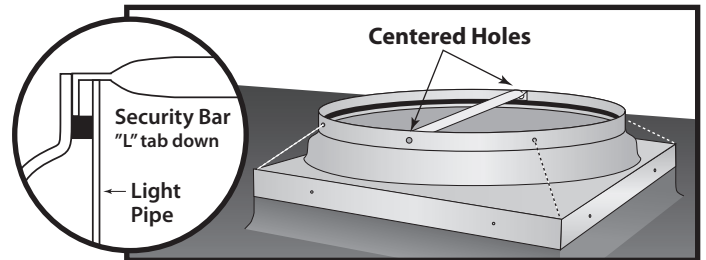

Figure 2
Step 1 Locate the two large pre-drilled holes on the flashing lip. These holes are counter-sunk and large enough to accommodate the 3/16" rivets. (see Figure 2)
NOTE: On the curb-mount flashing there are 4 holes diagonally from the 4 corners of the curb box (see dashed lines on Figure 2) - these are NOT the correct holes.
Step 2 With the "L" shaped tab facing down, line up the holes on the security bar to the larger, countersunk holes on the inside of the flashing lip. The "L" shaped tab should sit on top of the black horse hair gasket. (see Figure 2)